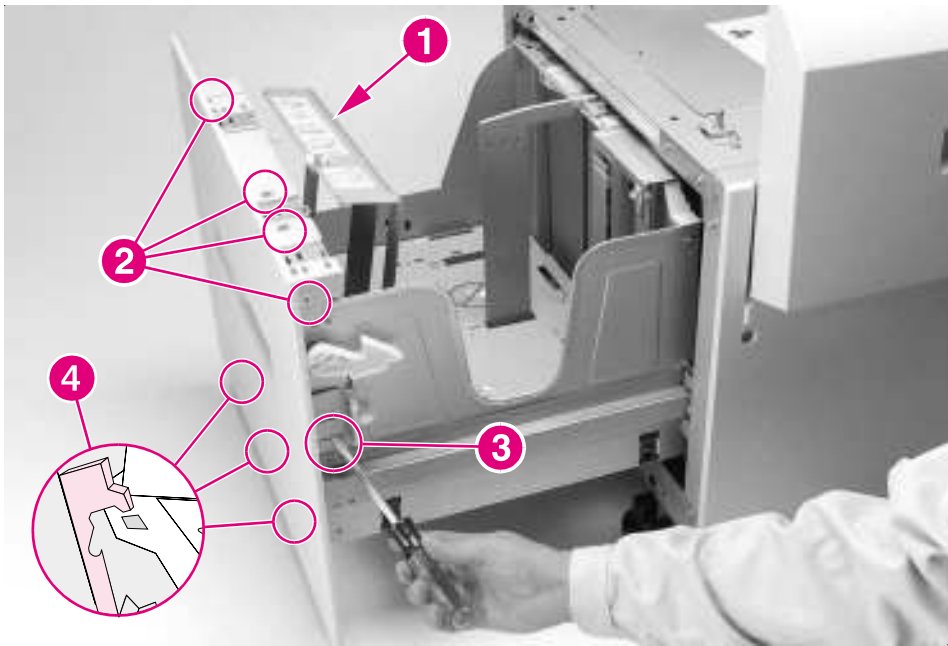

Figure 6-64 2000-sheet Input Tray Front Cover
- 1 Open the paper tray on the 2000-sheet Input Tray to the stops (figure 6-64).